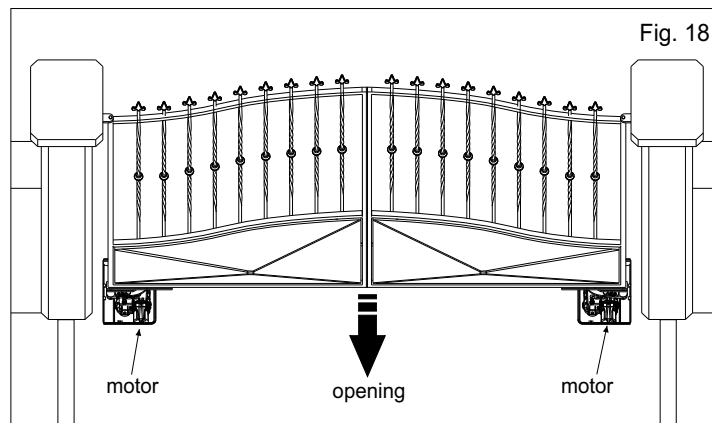

Fig. 18
4.1. It is important to distinguish the right hand and the left hand side operator, anyway the motor must always be turned against the opening side. Make reference to Fig. 18.